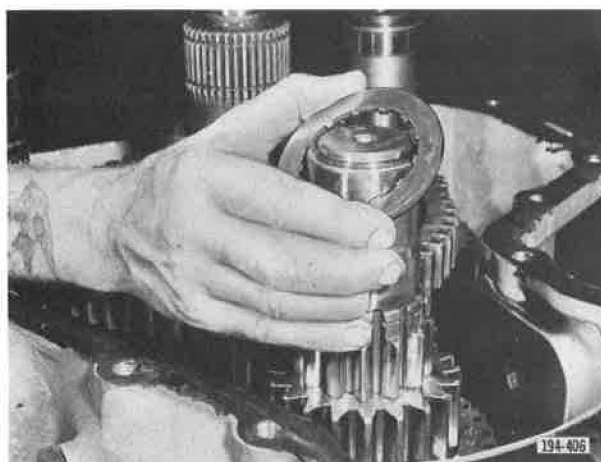

Figure 5-643. Installing Countershaft Selective Thrust Washer
16. Install front countershaft selective thrust washers on the three countershafts and retain them with their snap rings. See Figures 5-643 and 5-644.